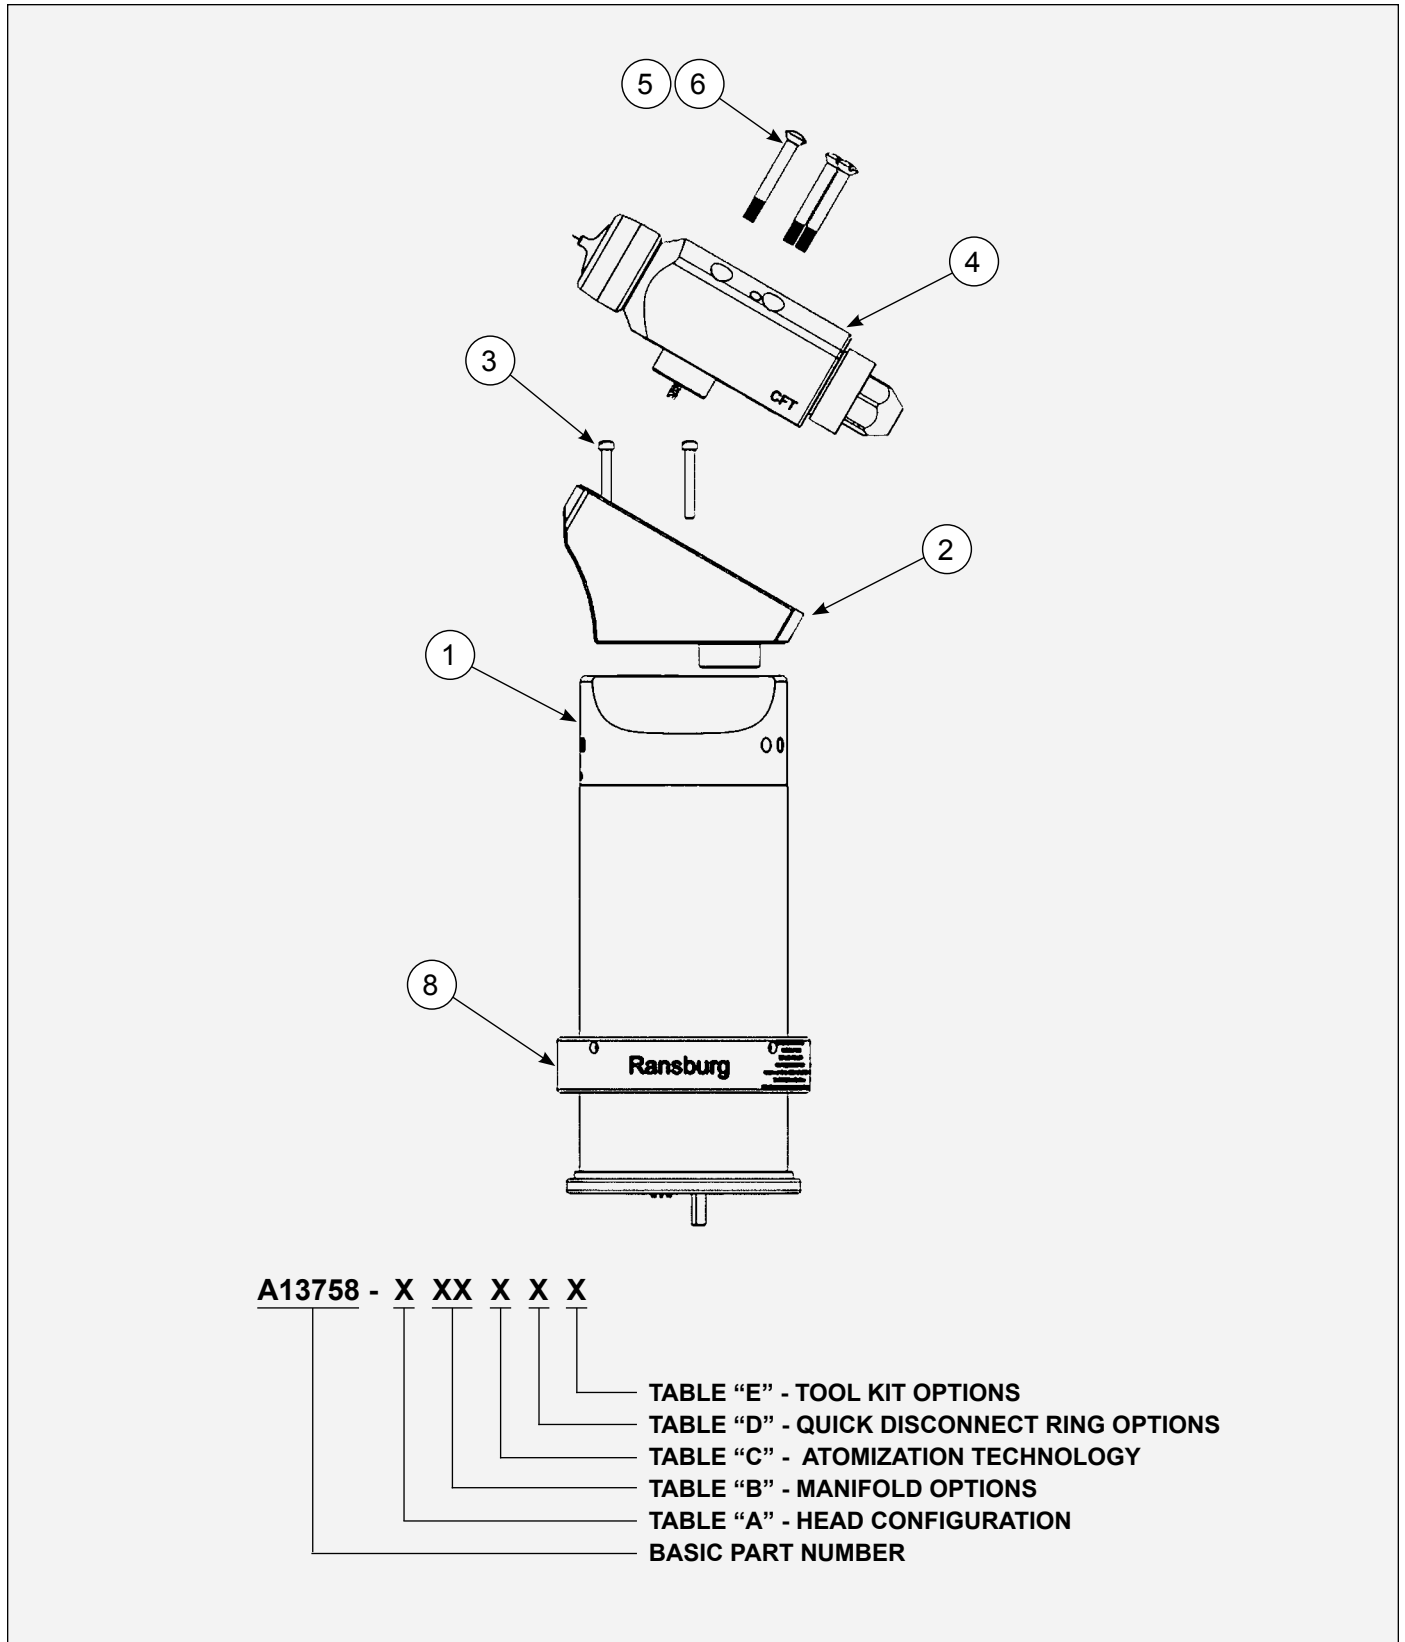

Figure 25: A13758 Spray Applicator Assembly
**A13758 SPRAY APPLICATOR ASSEMBLY - PARTS LIST (Figure 25)**